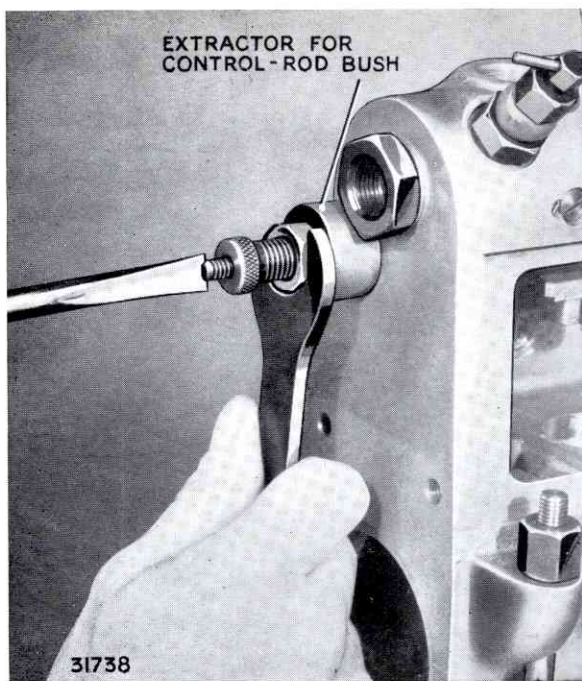

FIG. 67. REMOVING CONTROL ROD BUSHES
1. If the control rod bushes are worn and need renewing, a special extractor tool, C.A.V. No. ET.431 is required for removing the bushes (Fig. 67).